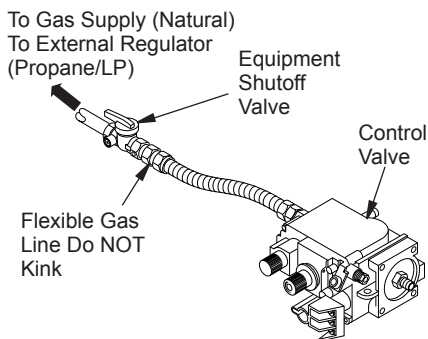

Figure 32 - Connecting Flexible Gas Line to Control Valve
3. Attach flexible gas line from gas supply to control valve (see Figure 32).